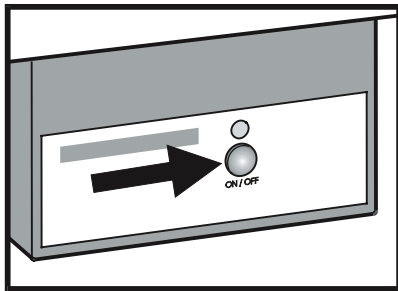

Figure 39
To Start the IceMaker - Figure 39
- Press the "ON/OFF" button so the control lamp comes on (**Figure 39**).